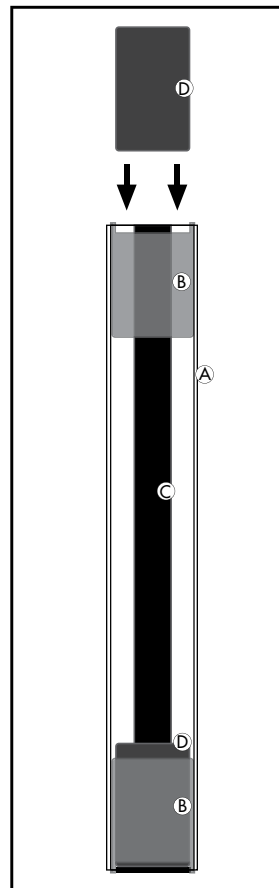

Figure 5
- 7.) Slide second post insert (D) into the tip to the vinyl post, over the steel post (*Figure 5*), and inside the 5"x5" plastic insert